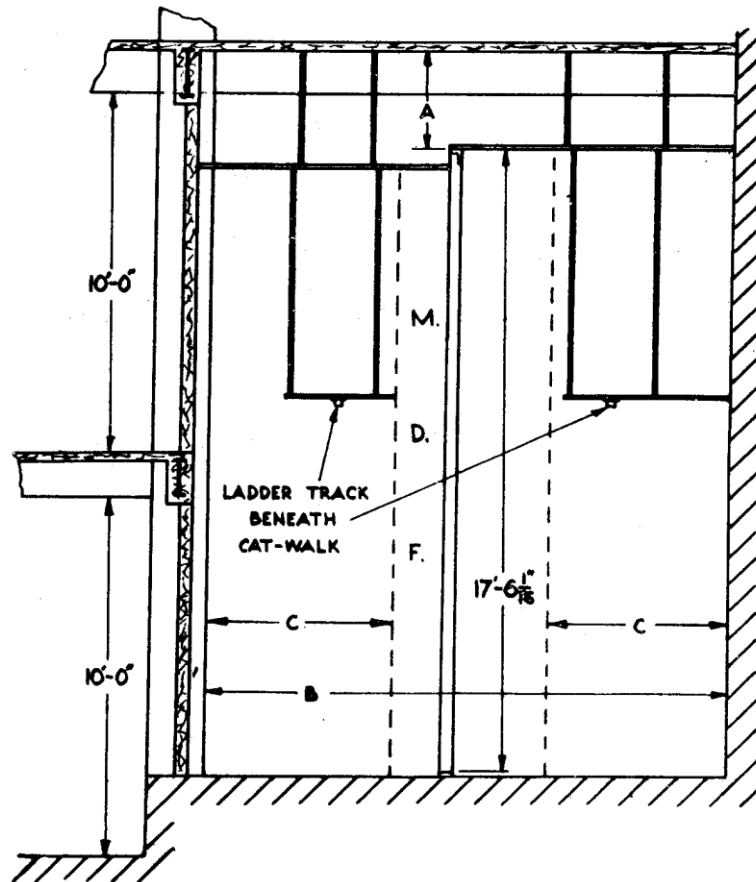

FIG. 6. MEZZANINE TREATMENT OF GROUND FLOOR
4.2 When an M.D.F. of 400 line capacity per vertical is to be installed in any exchange on a floor other than equipment floor, the ceiling height required should only be provided for the area required by the M.D.F. The remainder of that floor should receive a mezzanine treatment to make the most economical use of the remaining portion of the floor area as in Fig. 6.